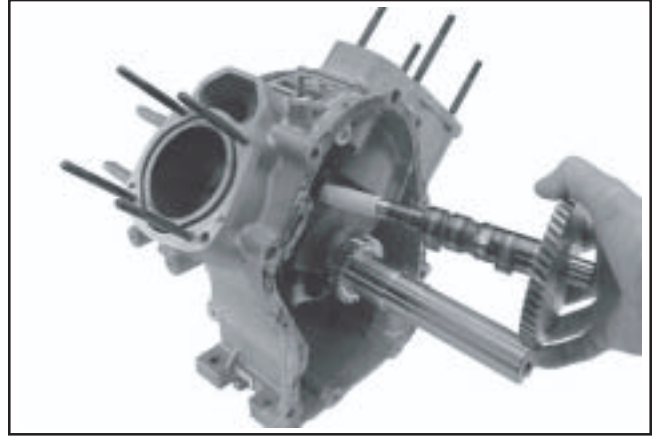

Figure 11-10. Installing Camshaft using Seal Protector.
1. Inspect the edges of the camshaft keyway, make sure they are not nicked or burred. Install the seal protector sleeve tool (SPX Tool No. KO1070) to prevent damaging the seal lips, or dislodging inner spring when the camshaft is installed. Cellophane tape over the keyway is also recommended. See Figure 11-10.